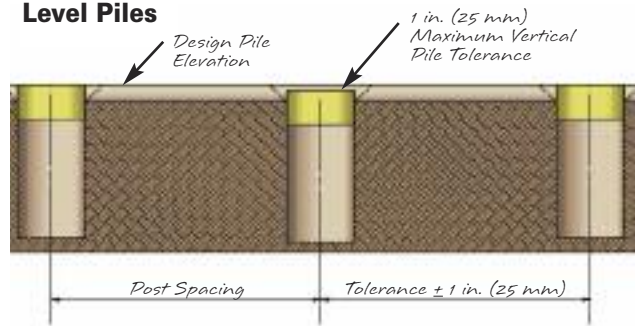

Figure 8: Pile Construction Tolerances
- When drilling the holes keep in mind that hole positioning is critical. A maximum allowable deviation of ± 1 in. (25 mm) for the pile cap is allowed for the horizontal locations. See Figure 8.
- Place the concrete form in the hole, making sure that the center of the concrete form is in alignment with the centerline of the AB Fence to ± 1 in. (25 mm), see *Figure 8*.
- During the pour of each pile, ensure that the concrete form is braced to maintain the correct elevation and horizontal location. Double check with laser and hand levels to maintain tolerance; minor adjustments will have to be made during the pour. See *Figure 8*.